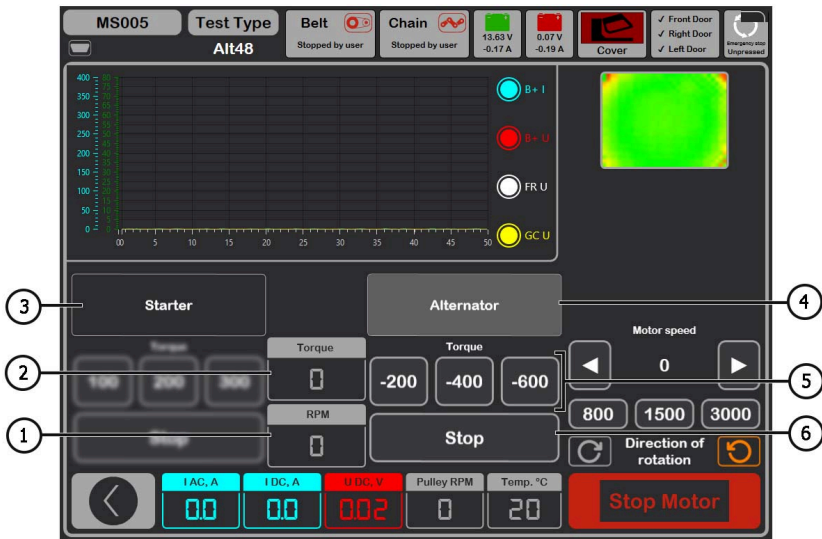

Figure 28. 48V alternator testing mode menu
In the alternator diagnostic mode for 48 V alternators (see Figure 28), the following distinctive information may be displayed on the screen:
- 6.1. Sequentially increase or decrease the resistance moment (position 5 in Figure 28). At the same time, the current value "I DC, A" should also increase or decrease proportionally.
- 6.2. Stop the testing mode by pressing the "Stop" button (position 6 in Figure 28).
- 7.2. Stop the testing mode by pressing the "Stop" button (position 6 in Figure 28).